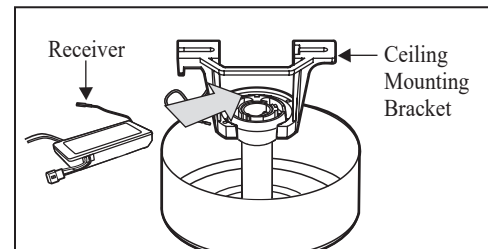

Figure 12
6. After checking the switches, insert the receiver into the mounting bracket with the flat side of the receiver facing the ceiling. (Figure 12)